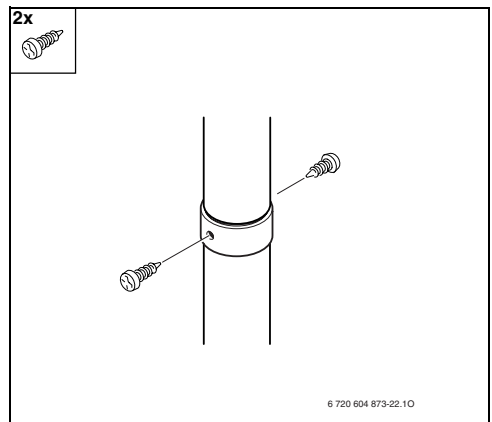

Fig. 38
►Secure joint with the screws supplied (Fig. 38).